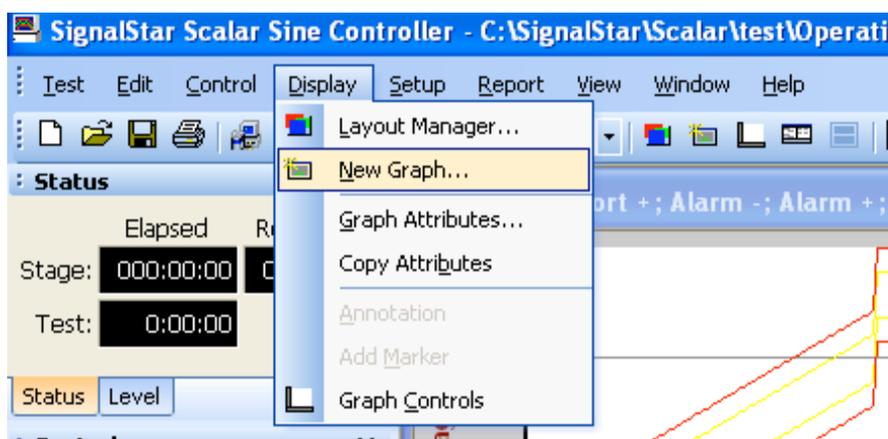

Figure 4-17: Screenshot of configuring a new graph
- 16) Click "DISPLAY" at the top toolbar; select "NEW GRAPH". See Figure 4-17.